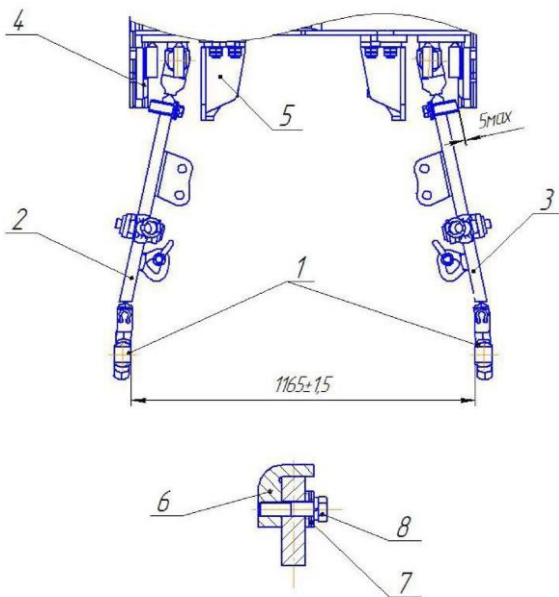

Fig. 23 Adjustment of lower links
The adjustment of the lower links (Fig.23) shall be performed in the following sequence:
– lift the mounted implement providing the distance of 1,180...1,280 mm from the supporting surface to the lower links; in doing so, the links 2 and 3 shall be located between the outer stop 4 and the internal stop 5 (Fig. 23). Stops 744P3-46 28021-1, pos.6, shall be installed on the side of outer stops.